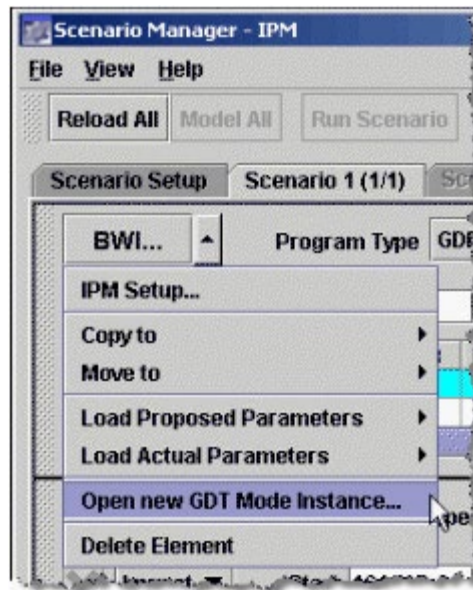

Figure 10-6: Open New GDT Mode Instance
- Click the appropriate Scenario tab in Scenario Manager. From the *Element Id* dropdown menu, select **Open New GDT Mode Instance** (see Figure 10-6). This opens a new instance of GDT Mode and copies all the parameters to that GDT Mode. GDT Mode is opened with the ADL currently opened in the Scenario Manager. If the element's ADL for the Scenario Manager is later than the current ADL time, click **Reload All**.